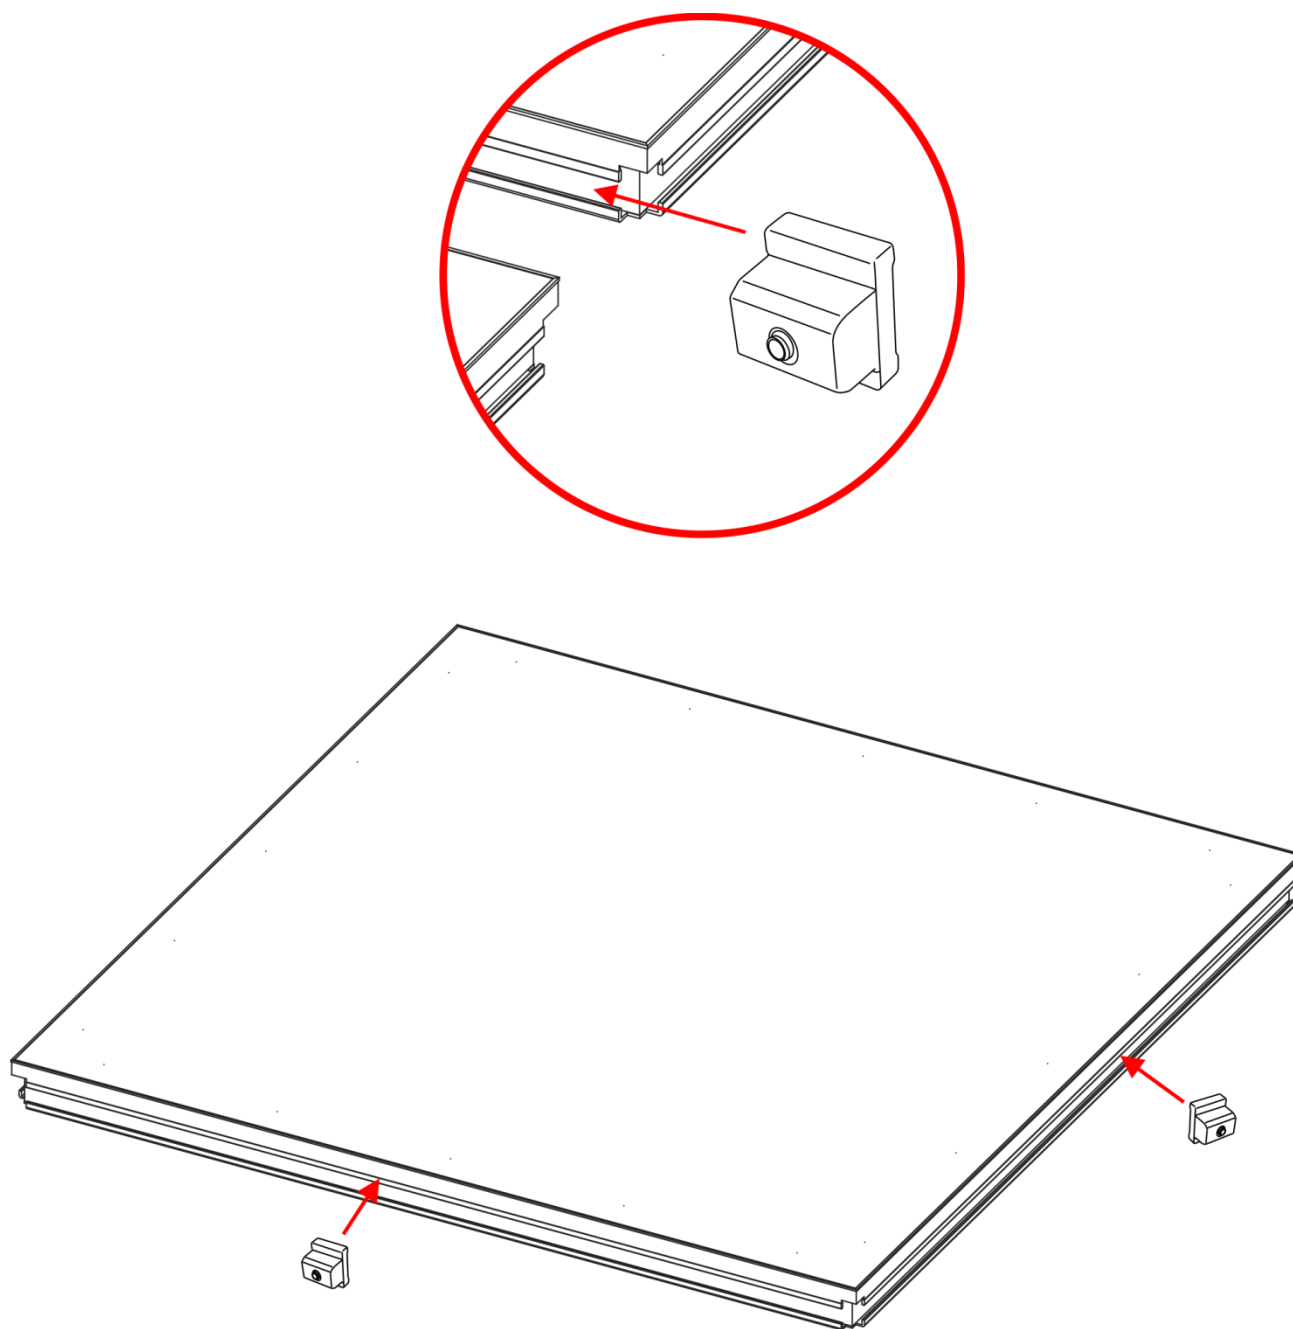

Fig. 05
- 02) In order to level the two sets, insert the Mammoth Stage Self-leveling Insert (**70637**) in between the two stage decks (see fig. 05).